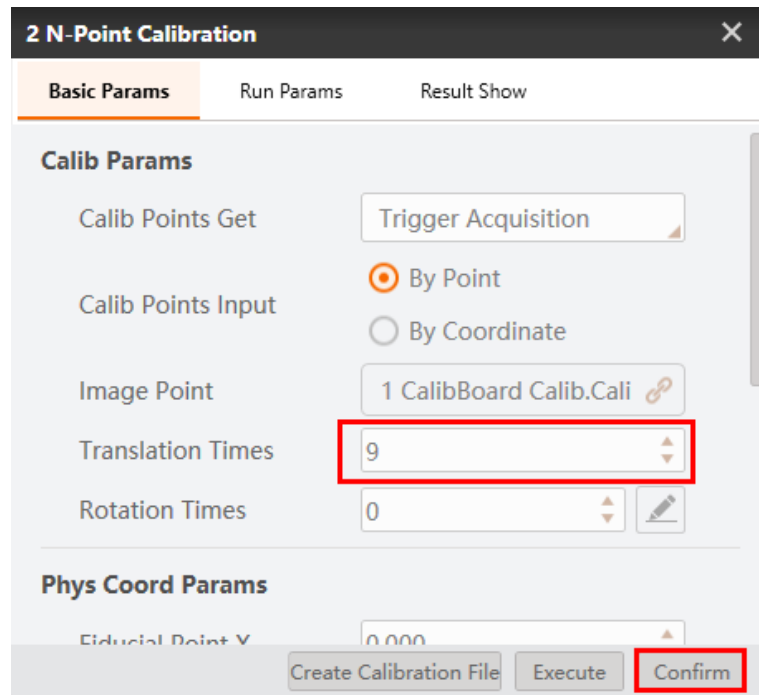
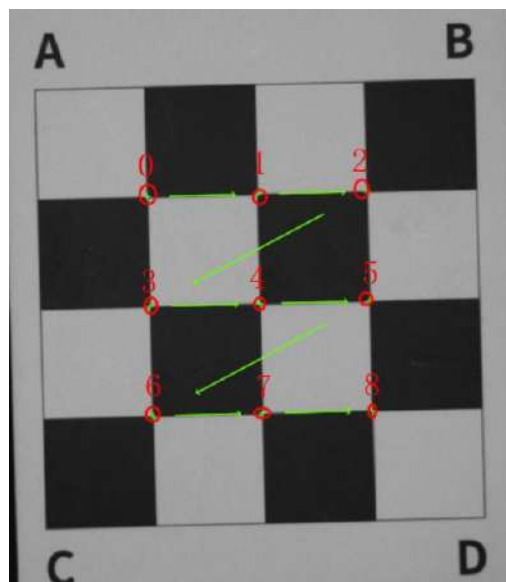

Figure 12.6 Set translation times
Figure 12.7 9 points calibration
1. Set **Translation Times** to 9, as shown in Figure 12.6, click  to get image. Calibrate 9 points in the order of the green arrow which is shown in Figure 12.7.
3. Jog X-axis and Y-axis on DobotStudio to make the pen move to the 9 points in the order of the green arrow which is shown in Figure 12.7, and write down every point value according to the corresponding ID on **Edit Calibration Points** page, and click **Confirm**.